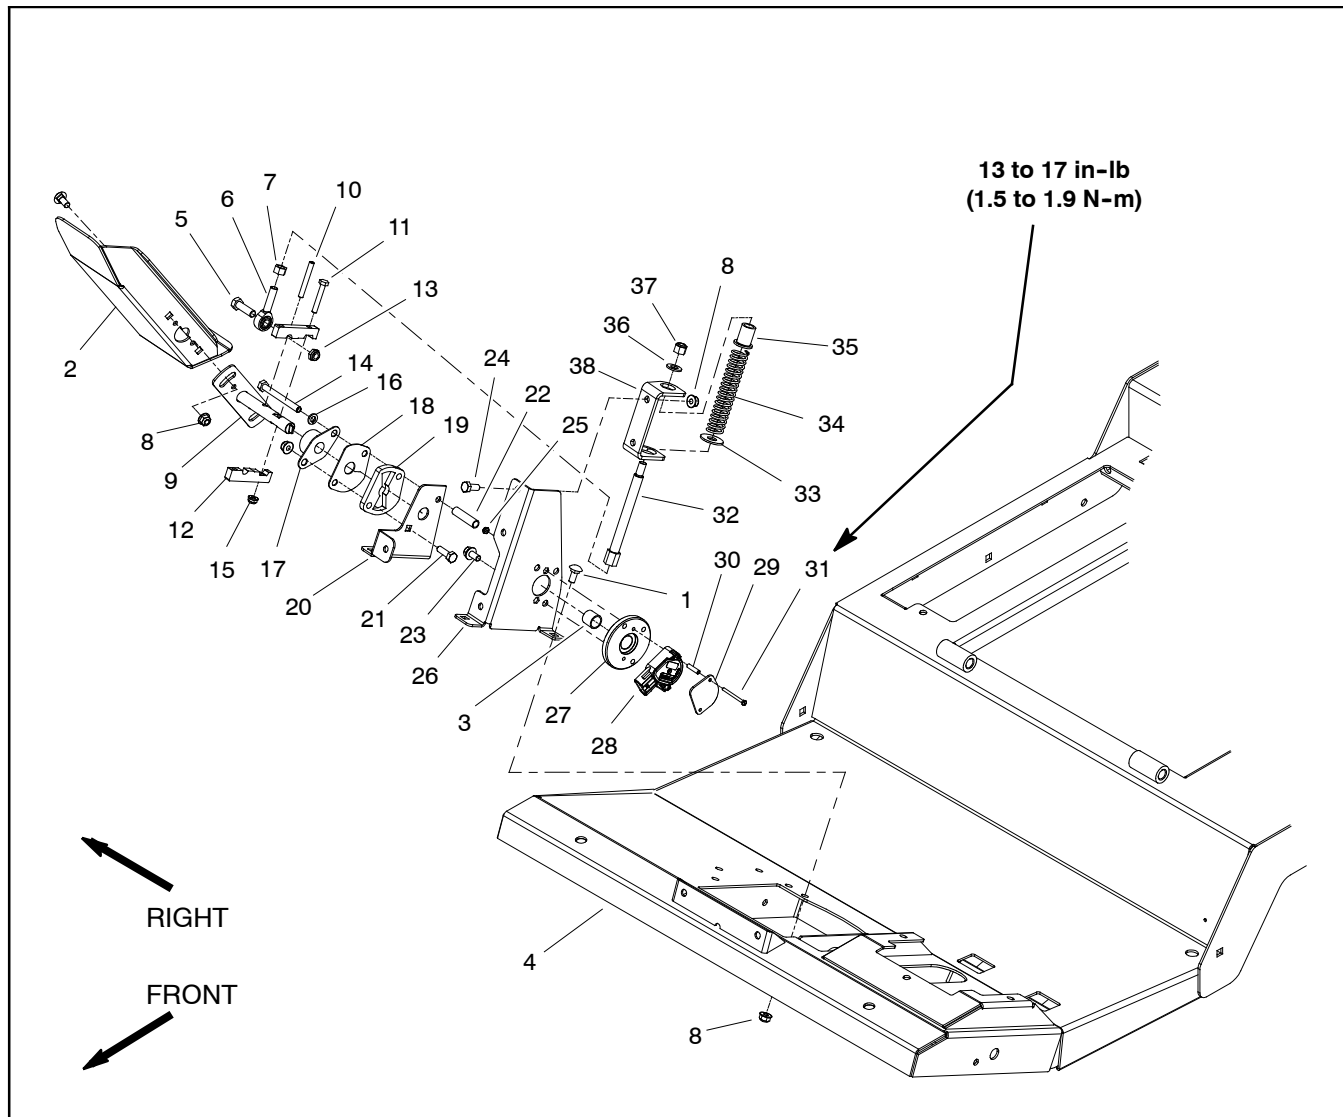

Figure 10
Disassembly (Fig. 10)
3. Disconnect machine wire harness connector from position sensor (item 28) on traction pedal.
5. Disassemble traction pedal as needed using Figures 10 and 11 as guides. When removing roll pin (item 10 in Fig. 10), make sure to support shaft to prevent component damage.
Assembly (Fig. 10)
1. Assemble traction pedal using Figures 10 and 11 as guides noting the following items:
- A. Apply grease to both the OD and ID of the spring retainer (item 35 in Fig. 10) before installation. Take care to not get grease on threads of spring shaft (item 32 in Fig. 10) or lock nut (item 37 in Fig. 10).
- B. If lock nut (item 37 in Fig. 10) was removed, tighten nut until washer (item 36 in Fig. 10) does not rotate.
- C. If traction pedal shaft (item 9 in Fig. 10) was removed, apply grease to the shaft areas that will be inside the bearings after assembly.
- D. Use a press to install roll pin (item 10 in Fig. 10). DO NOT damage flange mount bearing (item 17 in Fig. 10) or cover plate (item 18 in Fig. 10) when installing roll pin. Also, take care to not distort roll pin during assembly.
- E. Make sure that roll pin (item 10 in Fig. 10) is fully inside the butterfly groove of the shim plate (item 20 in Fig. 10). The roll pin should not contact the shim plate throughout the operating range.
F. To install the traction pedal position sensor (item 28 in Fig. 10), press and hold the traction pedal in the reverse direction slightly. Align the slot on the end of the pedal shaft with the slot in the position sensor. Slide position sensor onto screws and release pedal. Hold position sensor in position while installing capture plate (item 29 in Fig. 10) and lock nuts (item 25 in Fig. 10).
G. Torque screws (item 31 in Fig. 10) from **13 to 17 in-lb (1.5 to 1.9 N-m)**.
H. Leave the hex nut (item 7 in Fig. 10) loose so that the position sensor can be calibrated.
3. Plug machine wire harness connector into traction pedal position sensor (item 28 in Fig. 10).
5. Make sure that hex nut (item 7 in Fig. 10) is tightened after position sensor adjustment.